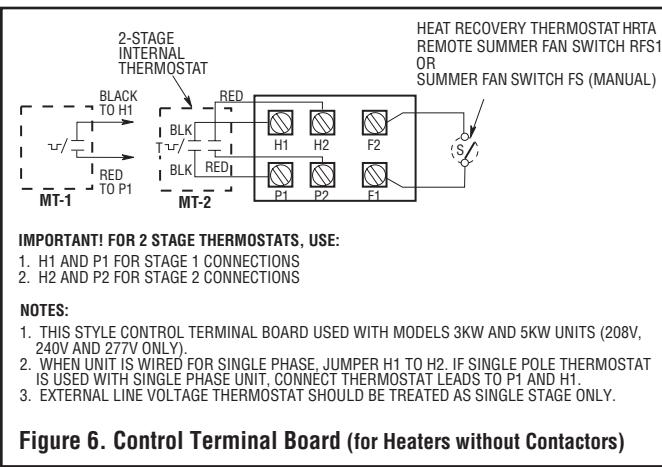
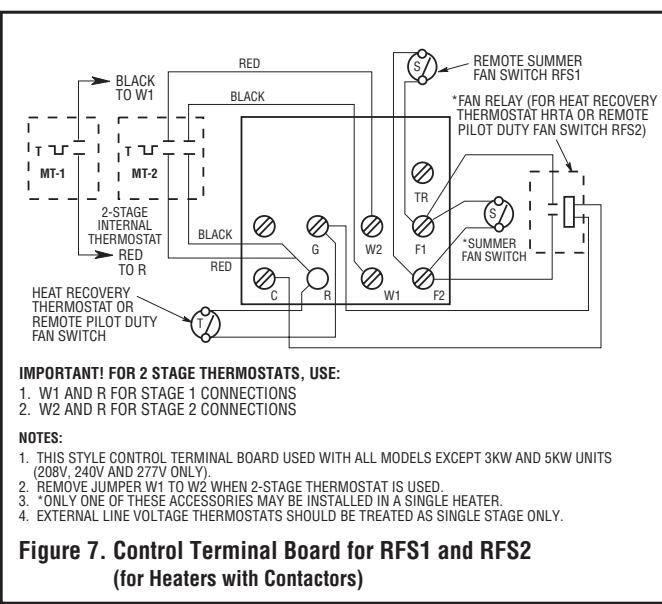

Figure 6. Control Terminal Board (for Heaters without Contactors)
Figure 7. Control Terminal Board for RFS1 and RFS2
5. Refer to wiring diagram, Figure 6, for wiring procedure on 3KW and 5KW (208V, 240V and 277V only). Refer to wiring diagram, Figure 7, for wiring procedure on all other heaters.
3. Install leads to terminal block. Refer to wiring diagram, Figure 6, for wiring procedure on 3KW and 5KW units (208V, 240V, and 277V only). Refer to wiring diagram, Figure 7, for wiring procedure on all other heaters.
4. A 1/2-inch (12.7mm) knockout is provided in the back of the heater adjacent to the control terminal board. Use a crimp-on terminal suitable for No. 8 screw on the control terminal board. Connect one field wire terminated lead to terminal F1 and the other terminated lead to terminal F2. Refer to Figure 6 for connecting to heaters without built-in contactors. Refer to Figure 7 for connecting to heaters equipped with built-in contactors.
4. A 1/2-inch (12.7mm) knockout is provided in the back of the heater adjacent to the control terminal board. Use a crimp-on terminal suitable for No. 8 screw on the control terminal board. Connect one field wire terminated lead to terminal "R" and the other terminated field wire lead to terminal "G". Refer to Figure 7.
2. Connect the lead wires from the relay to the control terminal board as shown in Figure 7. Each lead wire is marked for proper terminal location; connect the lead wires as indicated.
(For heaters with 24 Volt Control Circuit refer to Fig. 7 and proceed to step 1. For heaters with Line Voltage Control refer to Fig. 6 and proceed to step 3.)
2. Connect the lead wires from the relay to the control terminal board as shown in Figure 7. Each lead wire is marked for proper terminal location; connect lead wires as indicated.
8. Refer to wiring diagram, Figure 6 or Figure 7 for wiring procedure.